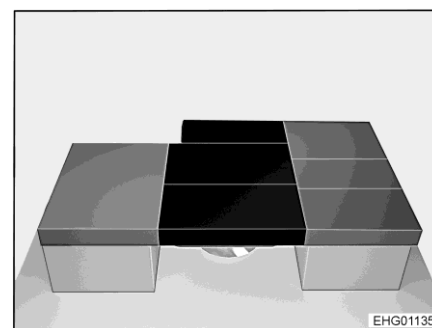

Fig. 171 After conversion
- Place three additional cushions in line with Fig. 171.